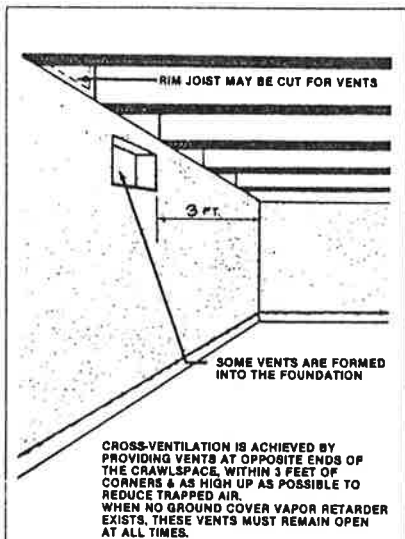

FIGURE 20: CRAWLSPACE VENTILATION IS ESPECIALLY IMPORTANT WHEN A GROUND COVER VAPOR RETARDER ISN'T EMPLOYED.
3. Determine location of needed vents (see Figure 20).